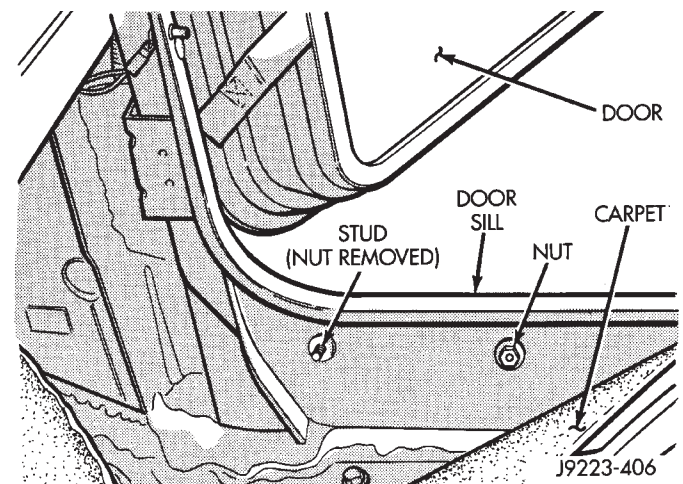

Fig. 52 Upper Retainer Bracket Stud Nuts Removal/Installation
(1) For convenience, lift the vehicle to a comfortable height on a hoist. Support the vehicle.
(2) From inside the vehicle, remove the nuts from the upper retainer bracket studs (Fig. 52).
(2) Install the upper retainer bracket and the retaining nuts (Fig. 52). Tighten the nuts to 6 N·m (53 in-lbs) torque.